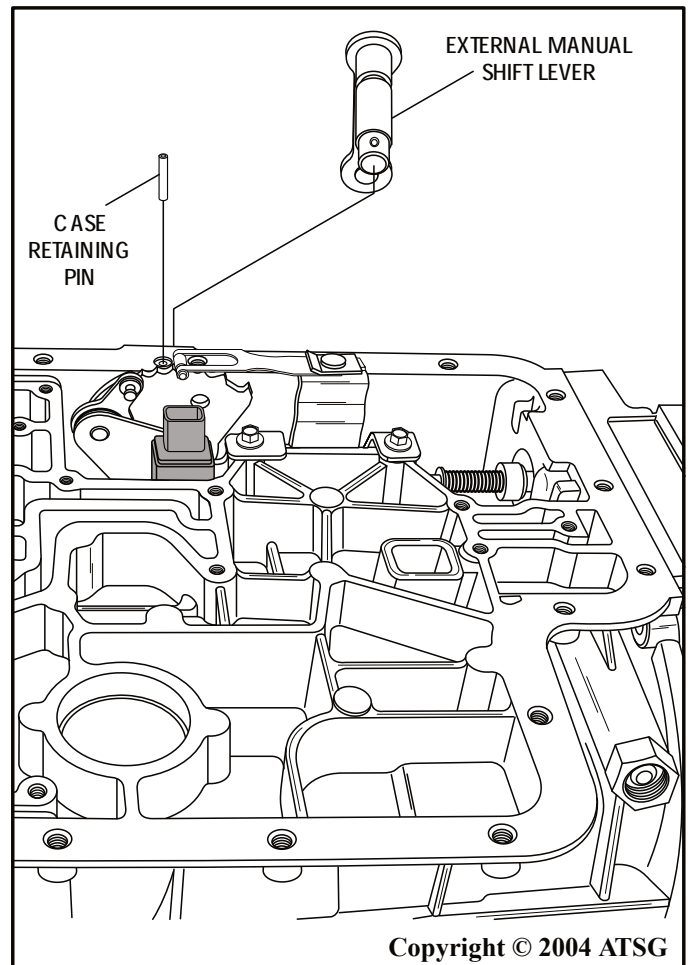

Figure 58
13. Install the external manual shift lever through the case and into the range sensor, as shown in Figure 58, and install case retaining pin.